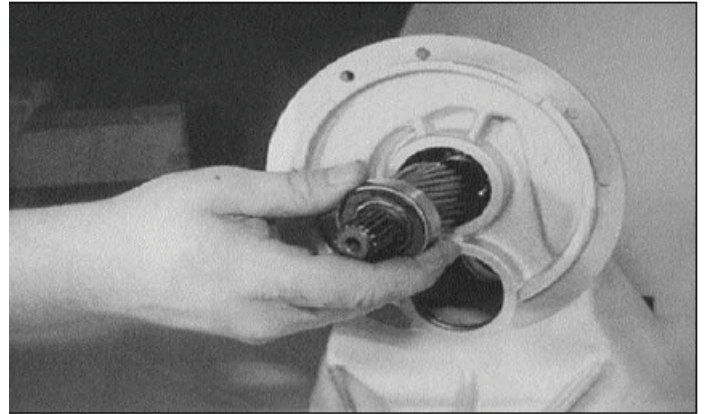

Figure 7-22. Intermediate Shaft & Bearing
a slide hammer may be required. See Figure 7-22.
4. Install input shaft (12). Bearings (13, 15) and shaft should slide easily into housing. If resistance is encountered, use a plastic or leather mallet to tap shaft into position. See Figure 7-22.